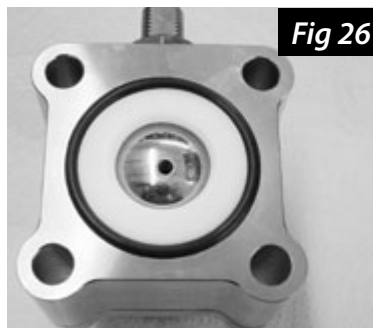

Fig 26
10. Position the second lubricated Teflon® seat and body seal o-ring onto the center section as shown in (Fig 26).